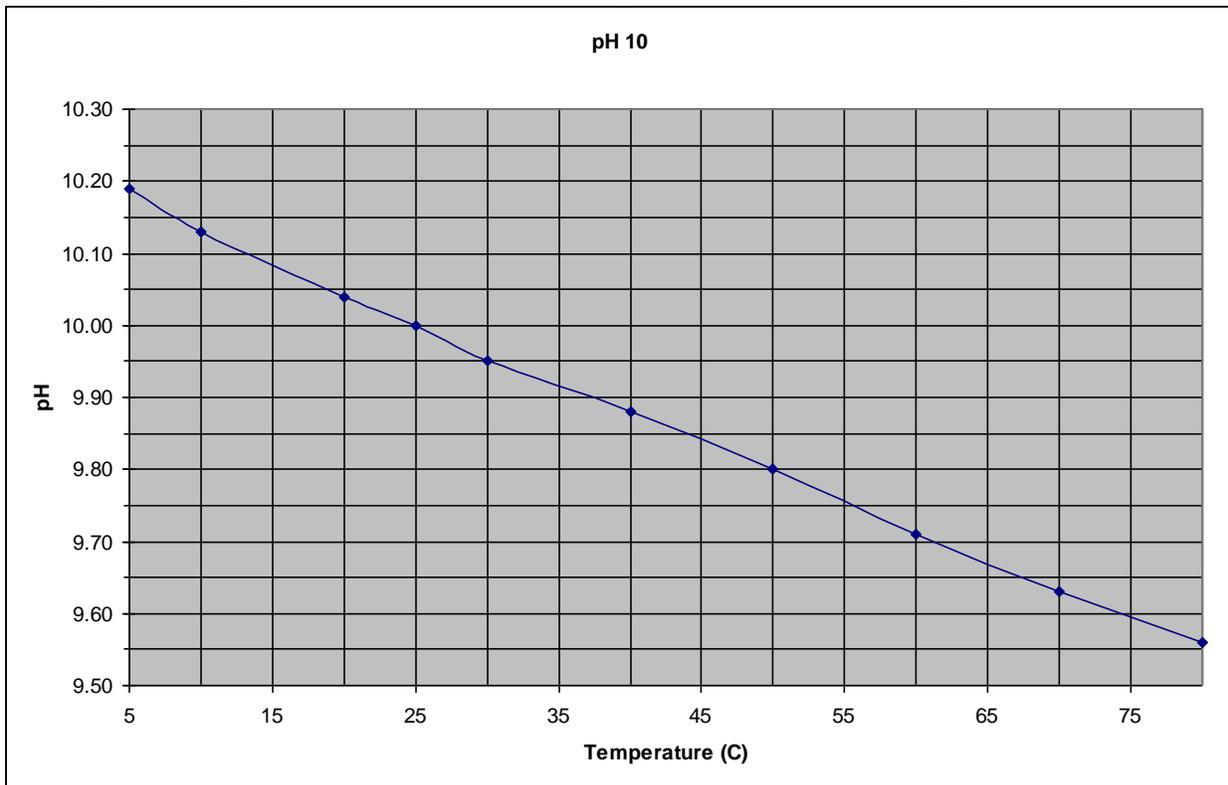
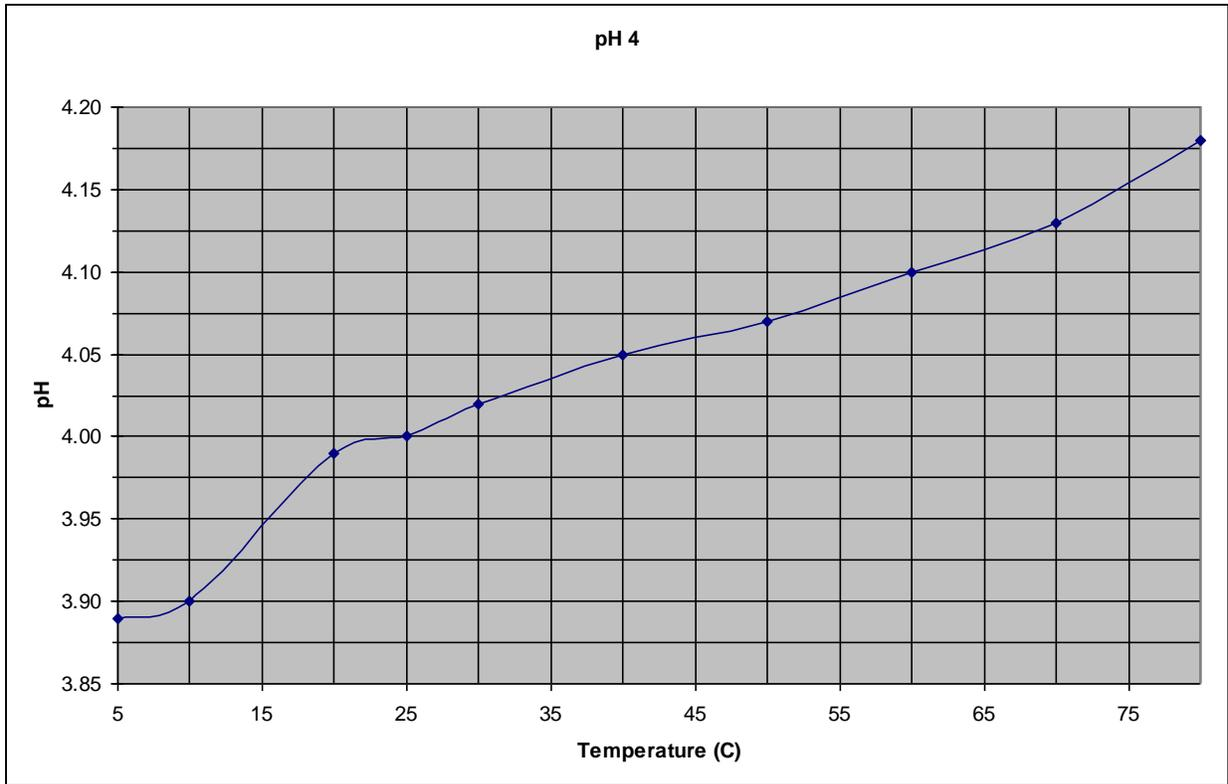

Figure 35. Temperature/pH curve for pH 10 Buffer Solution
Figure 36. Temperature/pH curve for pH 4 Buffer Solution
13. Determine the exact current pH of the 10.00 buffer solution from the table provided by the manufacturer or in **Figure 35 below** as in Step 7 above.
19. Determine the exact current pH of the 4.00 buffer solution from the table provided by the manufacturer or in **Figure 36 below** as in Step 7 above.
8. Repeat steps 1-7 for the second pH standard. This pH standard will depend on the types of streams that will be encountered. Use the 4.0 pH buffer if mainly acid streams will be encountered and use the 10.0 pH buffer if mainly alkaline streams will be encountered. The calibration standards exact pH at the given temperature can be found in **Figure 35** and **Figure 36** (**See above under YSI 600XL Sonde/650 MDS Display Unit Calibration pH**).